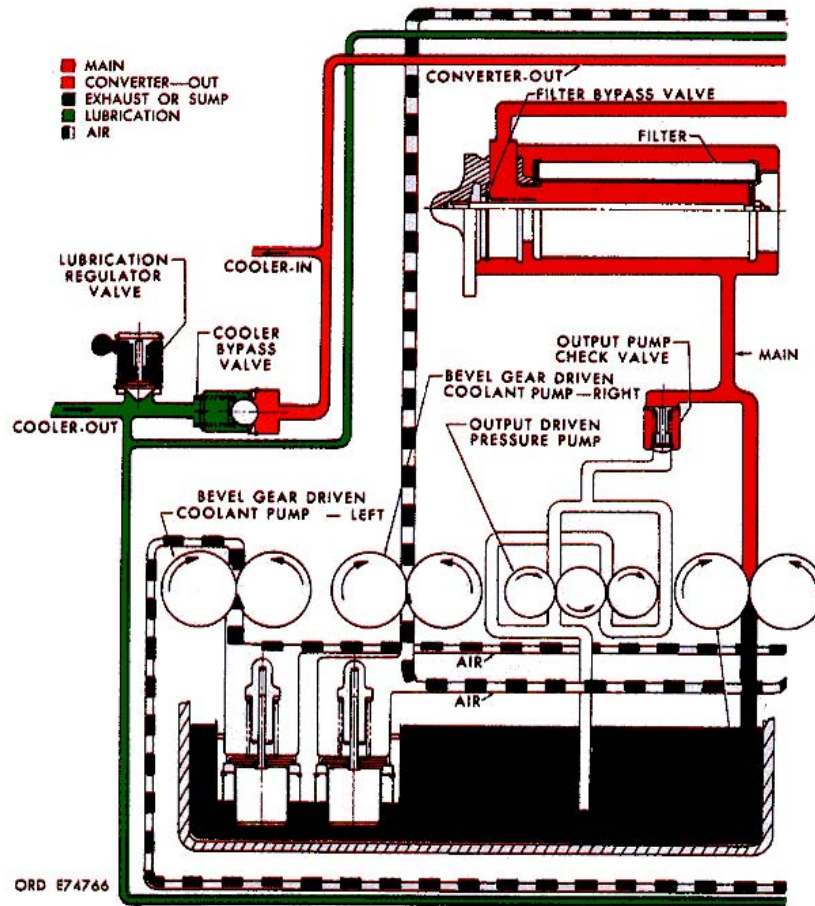

Figure 2-1. Hydraulic system oil supply components-schematic view.
(fig. 2-1)
(1) Source and function. In neutral range, main pressure is supplied only by the input pressure pump (fig. 2-1). The oil is directed at all times to the following valves: throttle valve regulator, flow valve, manual selector valve, brake signal valves, main-pressure regulator valve, and lockup shift valve. Main
d. *Output-driven Pressure Pump.* Forward vehicle travel causes the output-driven pump to rotate. This pump assists the input-driven pump in supplying main-pressure oil to the transmission (fig. 2-1).